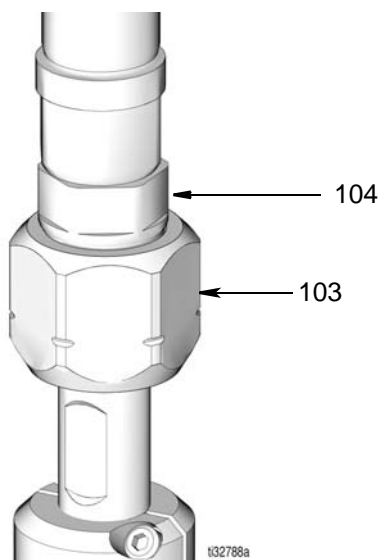

FIG. 4.
3. Loosen the coupling nut (103) and remove the collar (104). (FIG. 4). Remove the coupling nut from the piston rod (R). Unscrew the locknuts (107) from the tie rods (106). Separate the motor (101) and lower (102). (See FIG. 6, page 12).